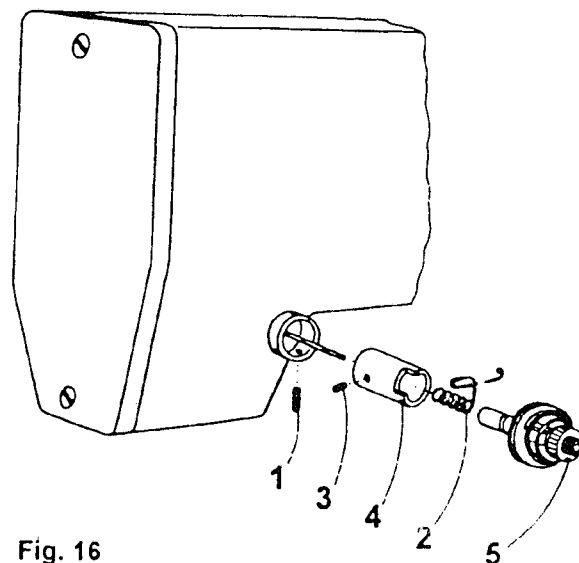

Fig. 16
**22. To adjust the operation of the adjusting spring (Fig. 16)**